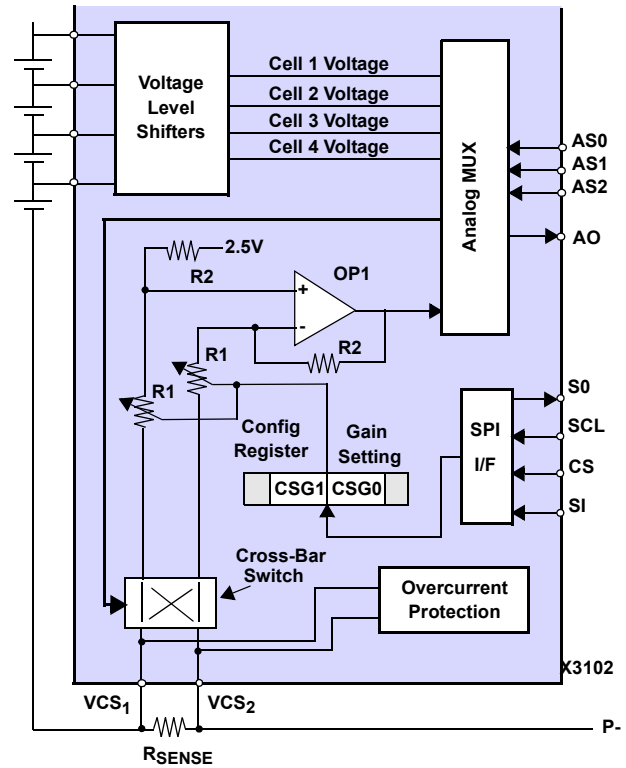

FIGURE 15. MONITOR CIRCUIT
The X3102 can be used to externally monitor individual battery cell voltages, and battery current. Each quantity can be monitored at the analog output pin (AO), and is selected using the analog select (AS0–AS2) pins (Table 25). Also, see Figure 15.
Since the value of the sense resistor (R_{SENSE}) is small (typically in the order of tens of mΩ), and since the resolution of various A/D converters may vary, the voltage across R_{SENSE} (VCS₁ and VCS₂) is amplified internally with a gain of between 10 and 160, and output to pin AO (Figure 15).